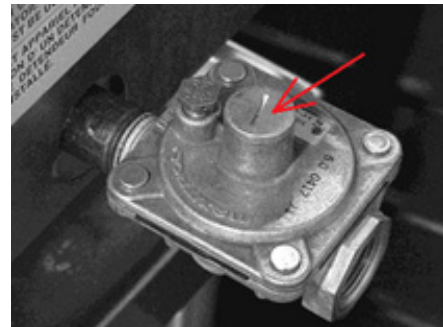

Fig.7
3. Change the pressure regulator spring kit to LP gas model, set at 10" W.C. (Fig.7).